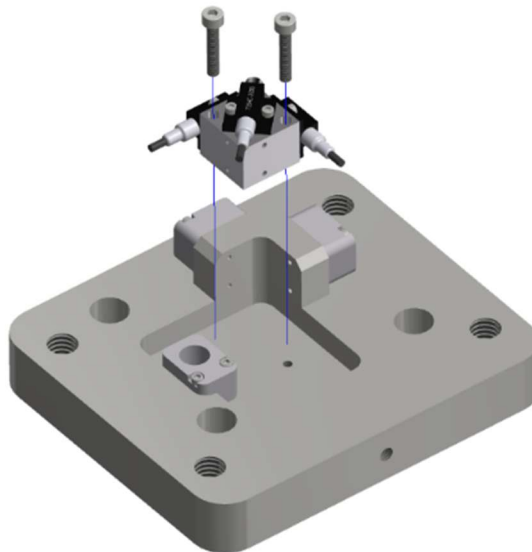

Figure 8-21. Remove the Tri-Pack Block (SA572-S80M) from the Upper Torso to Pelvis Adaptor Plate (474-4004)
8.2.17 Remove the Tri-Pack Block (SA572-S80M) from the Upper Torso to Pelvis Adaptor Plate (474-4004) by removing two M2.5 X 0.45 X 14 LG. SHCS SS (Figure 8-21).